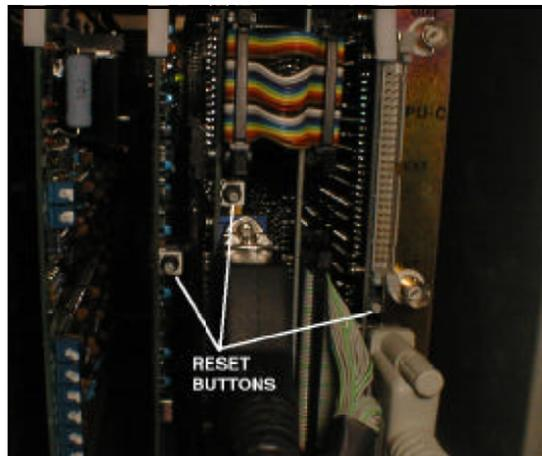

Figure 5-10. Controller reset buttons.
- 3) The controller is not operating properly. Press the controller reset buttons, Figure 5-10.